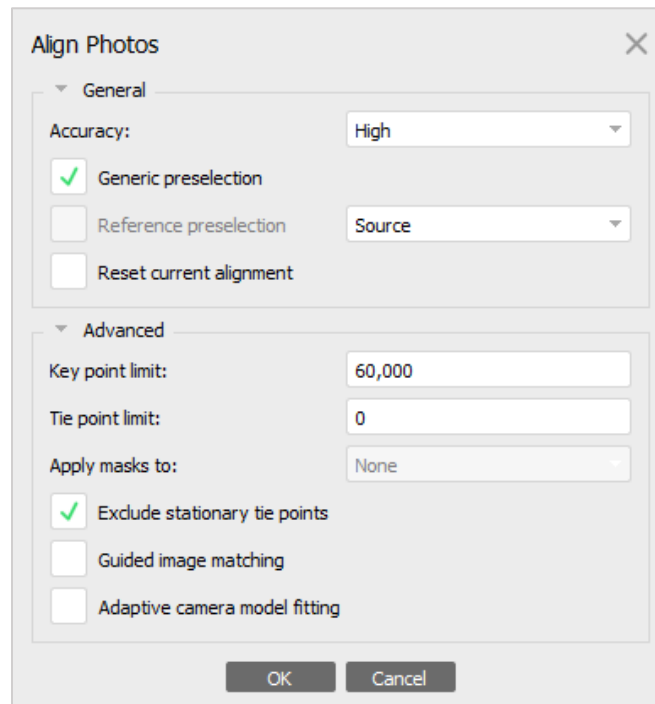

Figure 8. Align Photos window with settings for photo alignment as described in step 7.
7. A new window `Align Photos` will appear. Change the settings according to Figure 8, and click `OK` to begin SPC generation. Key settings are briefly described below: